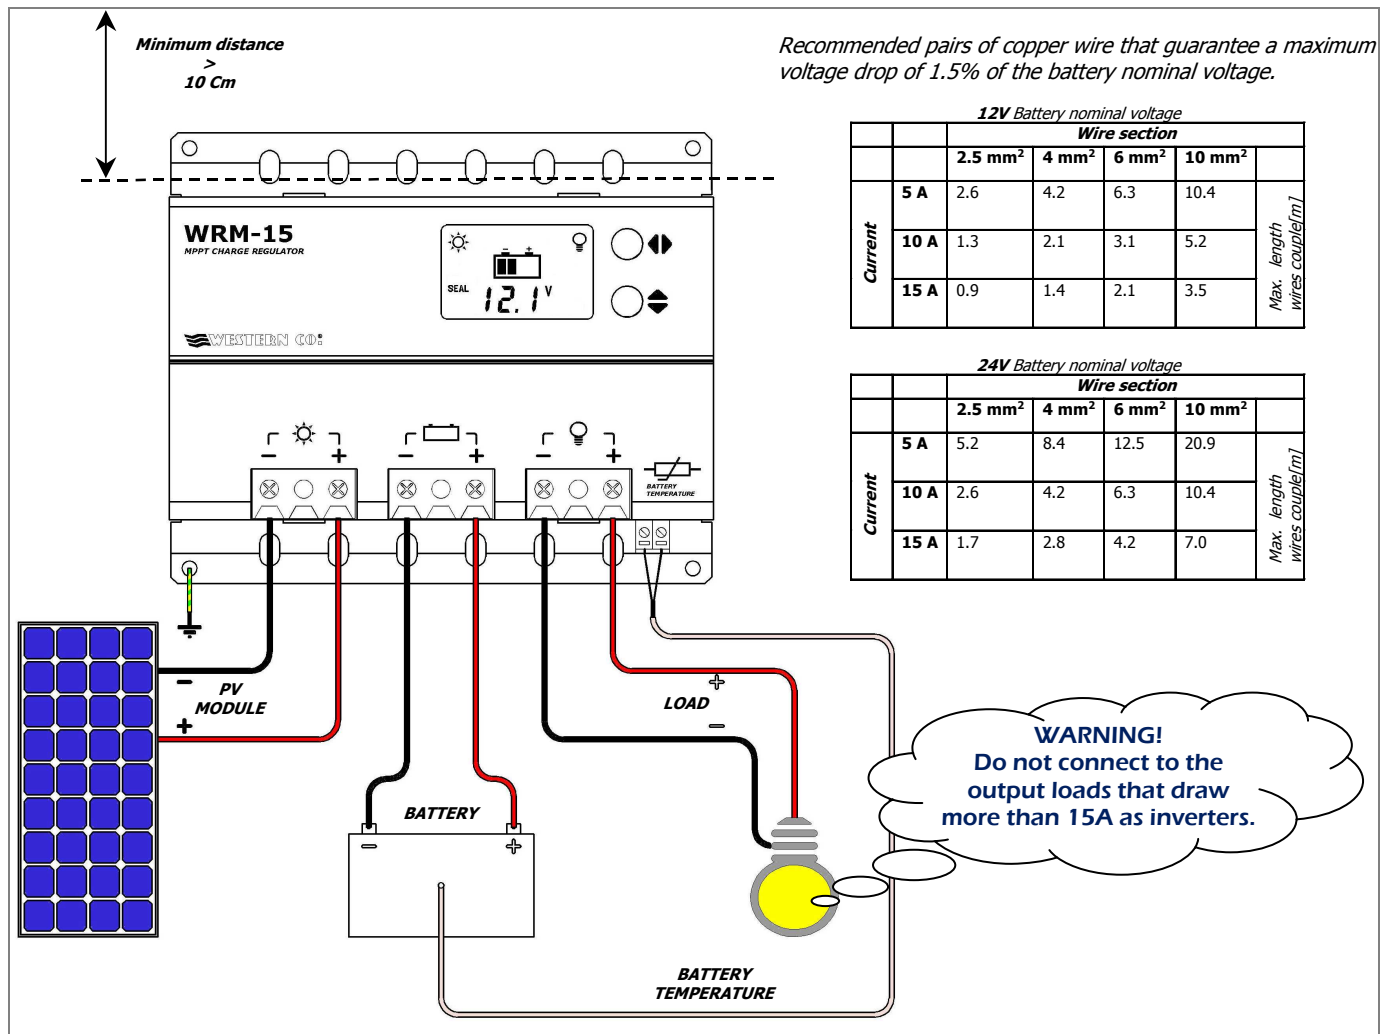

Fig. 2 Connection scheme
- 2) Connect respectively: load, sensor for battery temperature measure (supplied), PV module and, last, the battery as in the scheme fig. 2. When you connect the battery the regulator turns on and it begins to work. Use proper cable sections as indicated in fig. 2.
Once made the connections as in fig. 2 it is necessary to proceed with the testing of the system.